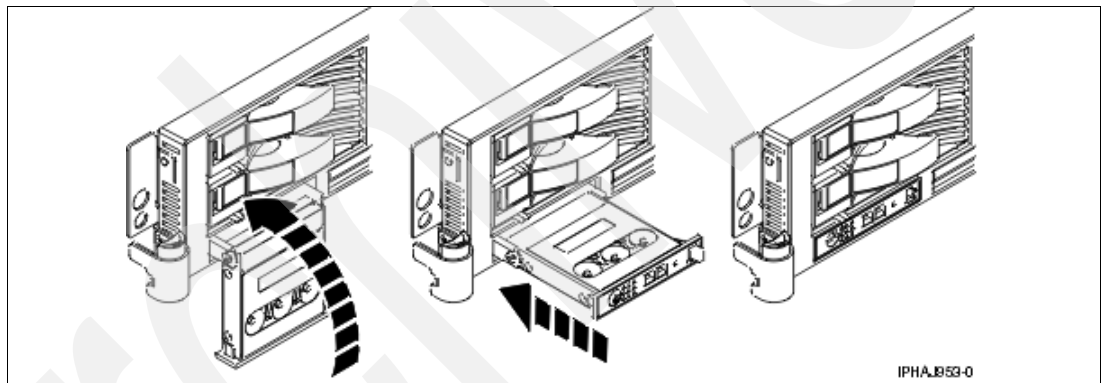

Figure 2-11 Storage of the control panel
- ▶ To move the control panel back into the device enclosure, lift the control panel up to align it with the opening and push it into place until you feel the tab lock. Refer to Figure 2-11 for details.